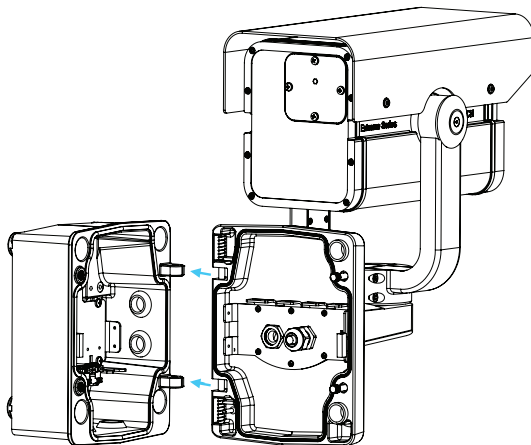

Figure 4.3 Camera Box Hinge Alignment
pinched (about 5 mm (0.2 in.) of insulation). See *Figure 4.3, Page 27*, above, for the connector locations.
3. While continuing to hold the top hinge pin, open and align the top and bottom hinges of the camera arm to their mating points on the junction box. See *Figure 4.3*, above.